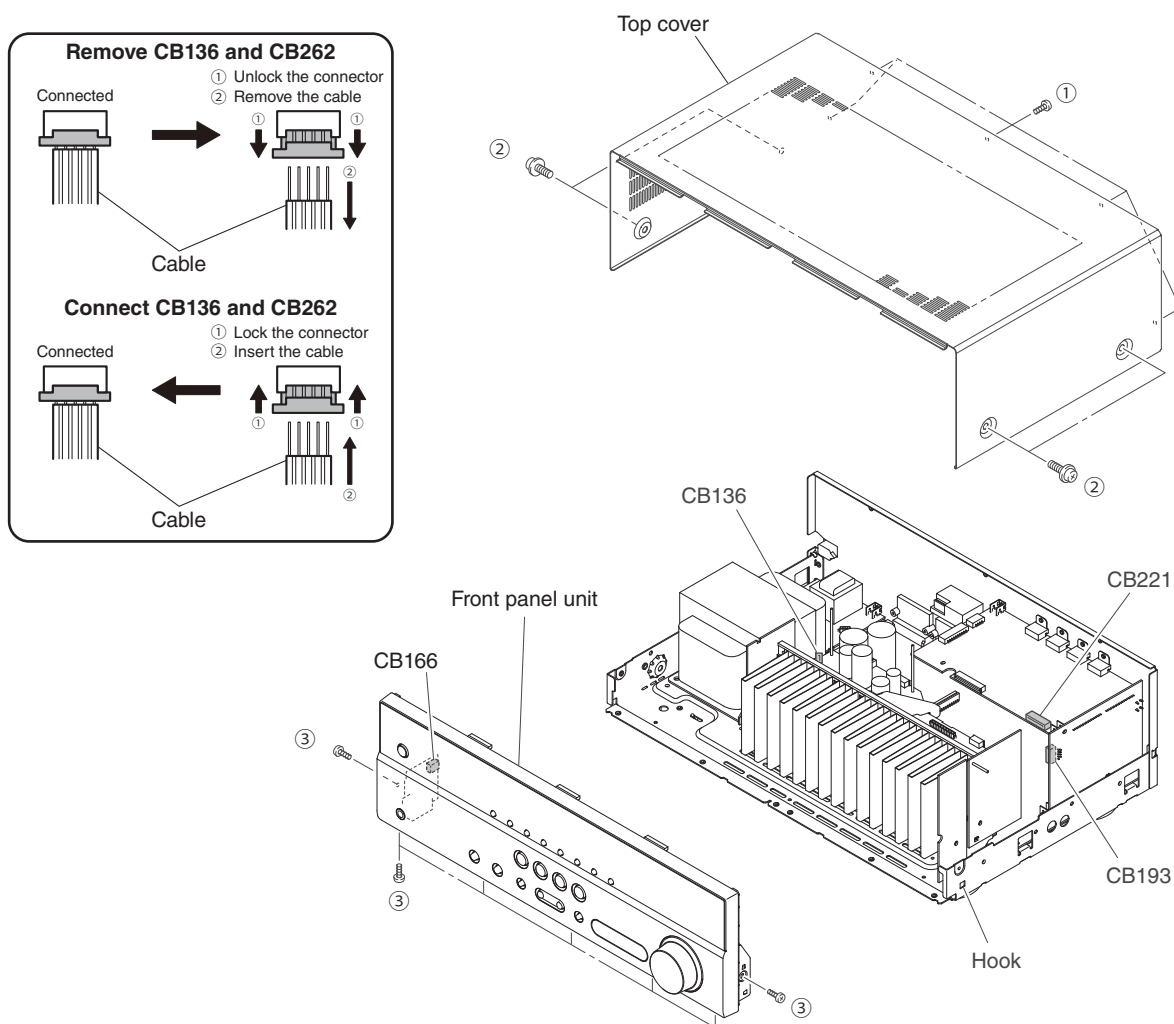

Fig. 1
- Remove 5 screws (①) and 4 screws (②). (Fig. 1)
- Slide the top cover rearward to remove it. (Fig. 1)
- Remove 7 screws (③). (Fig. 1)
- Remove CB166, CB193 and CB221. (Fig. 1)
- Unlock and remove CB136. (Fig. 1)
- Release hook and then remove the front panel unit. (Fig. 1)